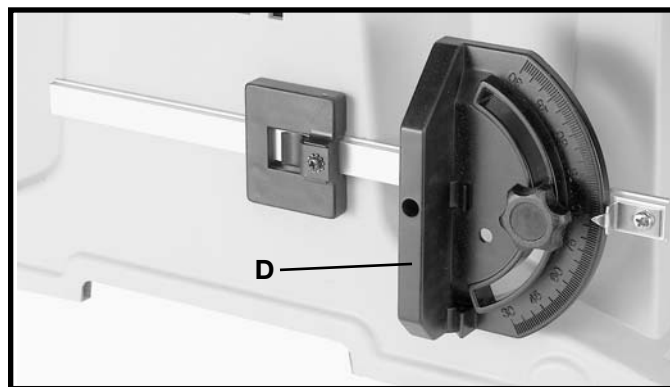

Fig. 16
4. Fig. 16, illustrates the miter gage (D) inserted into the miter gage holder when not in use.